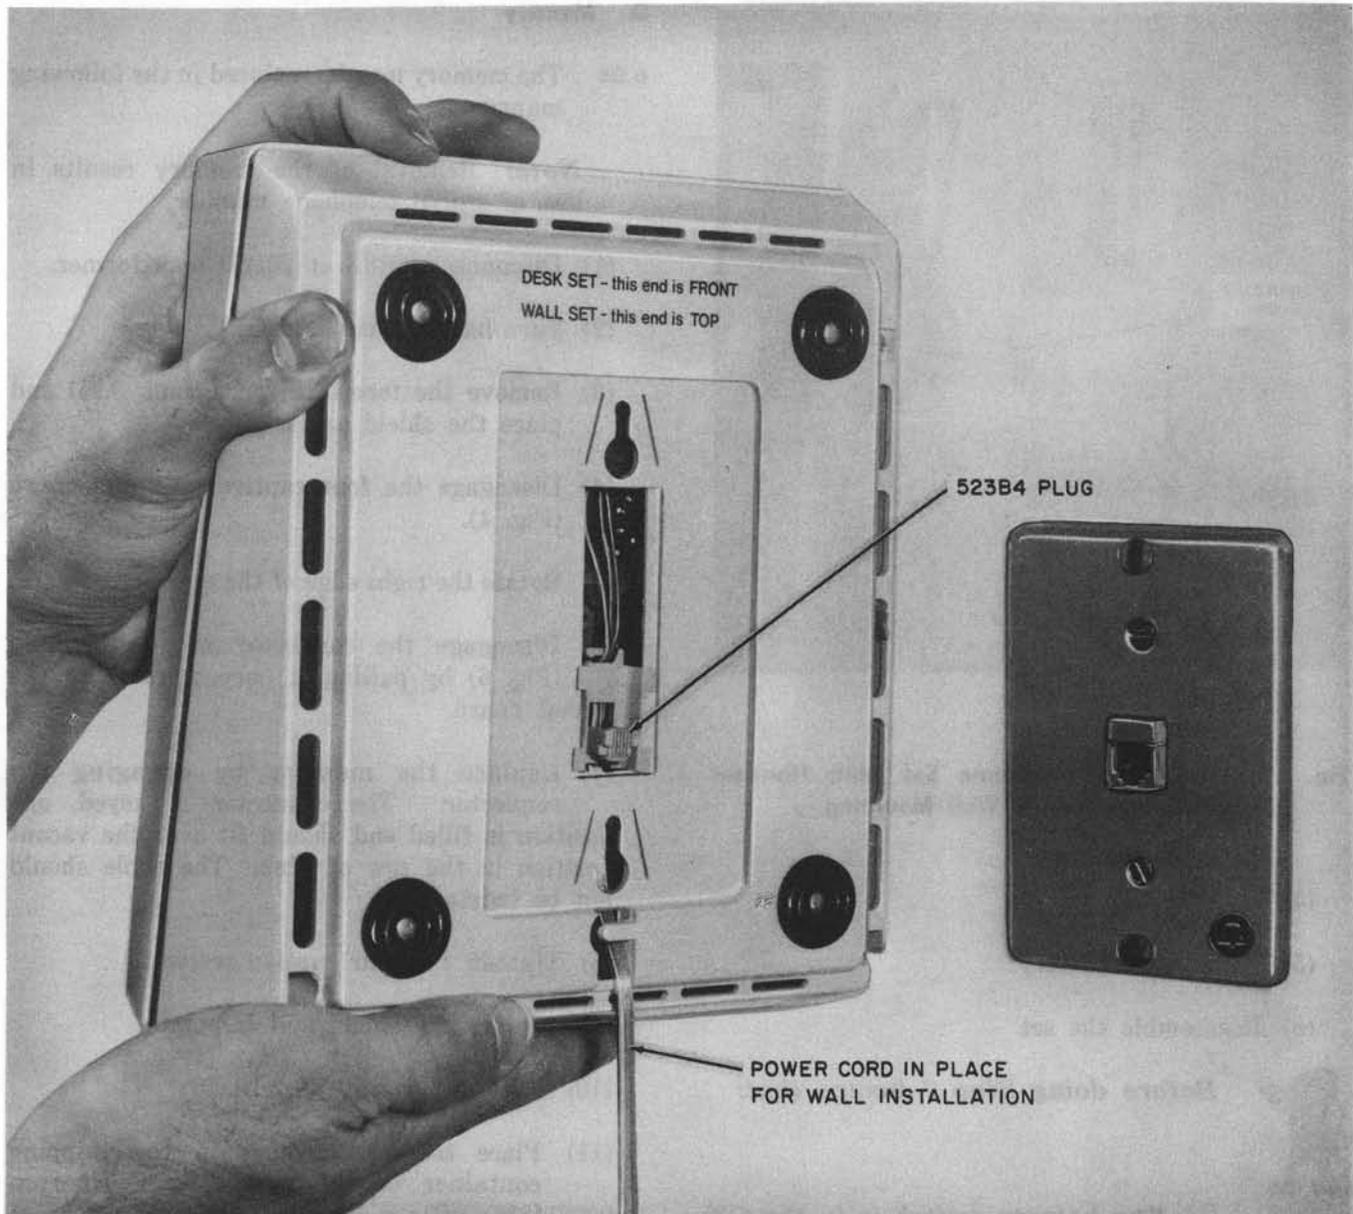

Fig. 12—2960A01M Wall Set and 630A4 Connecting Block
- (1) Remove the lower housing (paragraph 3.17).
- (2) Remove the 523B4 plug from its stored position and snap both sides of the plug into rectangular slot in the bottom of the lower housing. Snap plug in from the outside so that the word **TOP** is properly oriented in the housing (Fig. 12). The plug should slide freely in the slot.
- (3) Insert the other end of the 523B4 plug into the jack position designated **PHONE** on the power supply board.
- (4) Insert the power cord up through the cord opening below the plastic retainer tab in the bottom of the lower housing (Fig. 12).
- (6) Place the lower housing on the chassis according to the instructions on the bottom (Fig. 12).
- (7) Engage the four captive screws to fasten the lower housing to the bottom of the chassis.
- (8) Remove the station number card retainer and station number card from the upper housing.
- (9) Disengage the captive screw from the chassis and lift out the concealed handset hook and screw from the cavity in the upper housing.
- (10) Completely remove the captive screw from one side of the handset hook and insert it into the other side.
- (12) Replace the station number card and card retainer.
- (13) The converted wall set is intended to plug into and secure to a 630A4 connecting block (Fig. 12 and 16B).